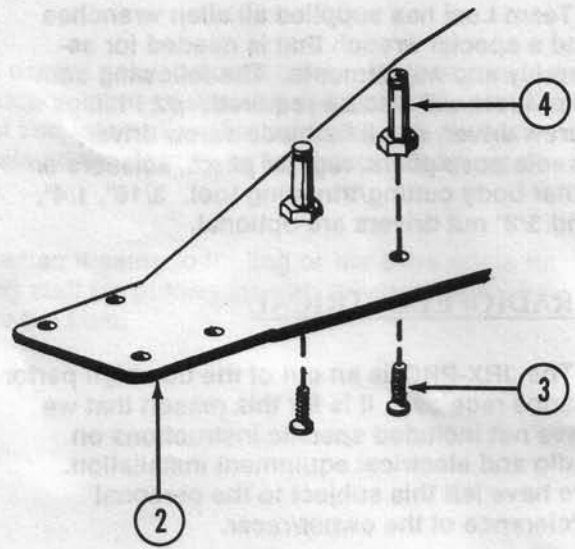

FIG. 1
1. Affix aluminum steering posts (4) to chassis (2) using two 4-40 x 3/8" flathead screws (3). Fig. 1.